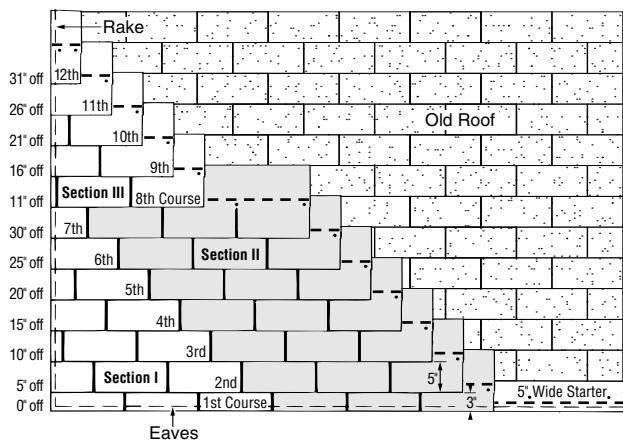

Figure 10-21: Five Off, Twelve Up, Nested.
**1ST COURSE:** The first course is made of 10" by 36" shingle strips made by cutting 2" off the bottom of the tabs of regular shingles. Align the top edge of the strips so they butt up against the tabs of the shingles in the old third course (*Figure 10-21*).
1. Begin the second course by cutting 5" off the left end of a shingle and aligning the top edge with the butt edge of the shingle in the old fourth course (*Figure 10-21*).
1. Begin the eighth course by cutting 11" off the left end of a shingle and applying the 25" piece over the seventh course shingle, aligned with the left edge of the seventh course (*Figure 10-21*).